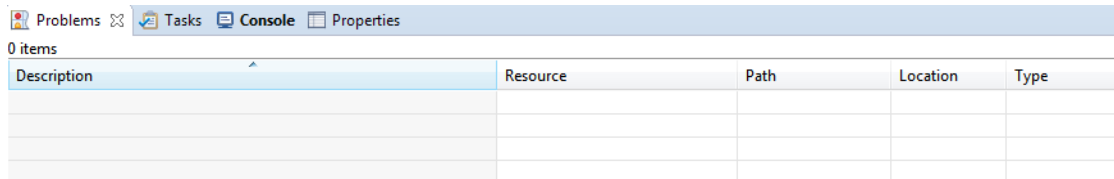

Figure 39 • Problem Window
23. Make sure **Problems** window must not have any errors, as shown in Figure 39.